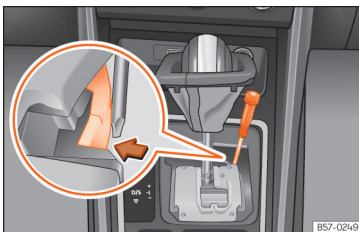

Fig. 164 Gear selector lever: manual release from the parking position.
- Using the flat part of a screwdriver, press the yellow tab sideways and keep it pressed down  **Fig. 164**.